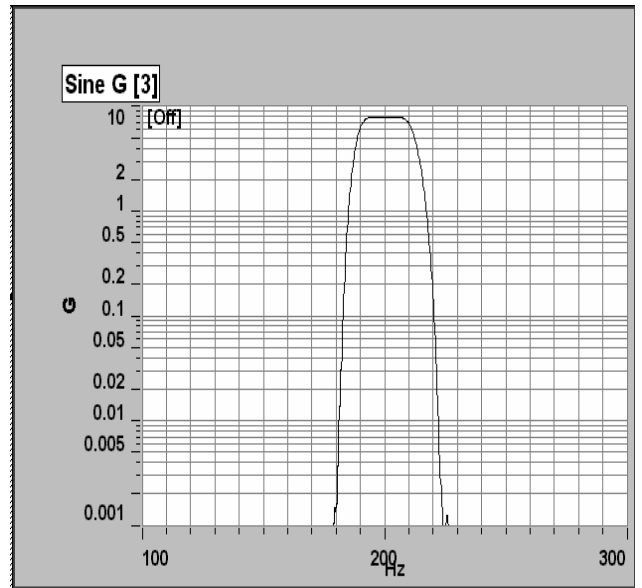

Figure 2
2. Fundamental Control, which requires Tracking Filters. See Figure 2 below